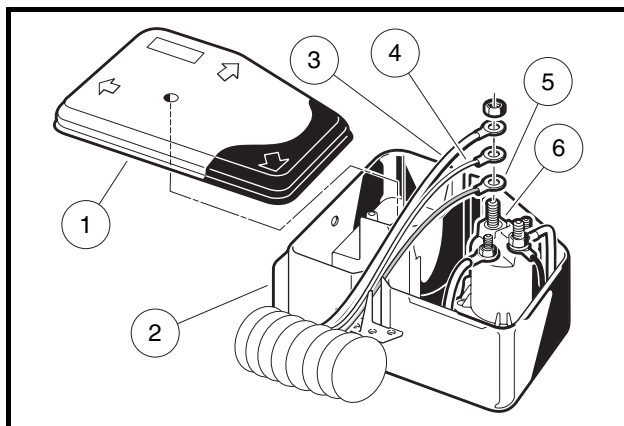

Figure 12-9 Solenoid Wire Removal
5. Remove the 6-gauge white wire, the 16-gauge red wire, and 16-gauge white wire from the large post of the solenoid. Do not allow the wires to touch the frame or other components of the vehicle (**Figure 12-9, Page 12-14**).